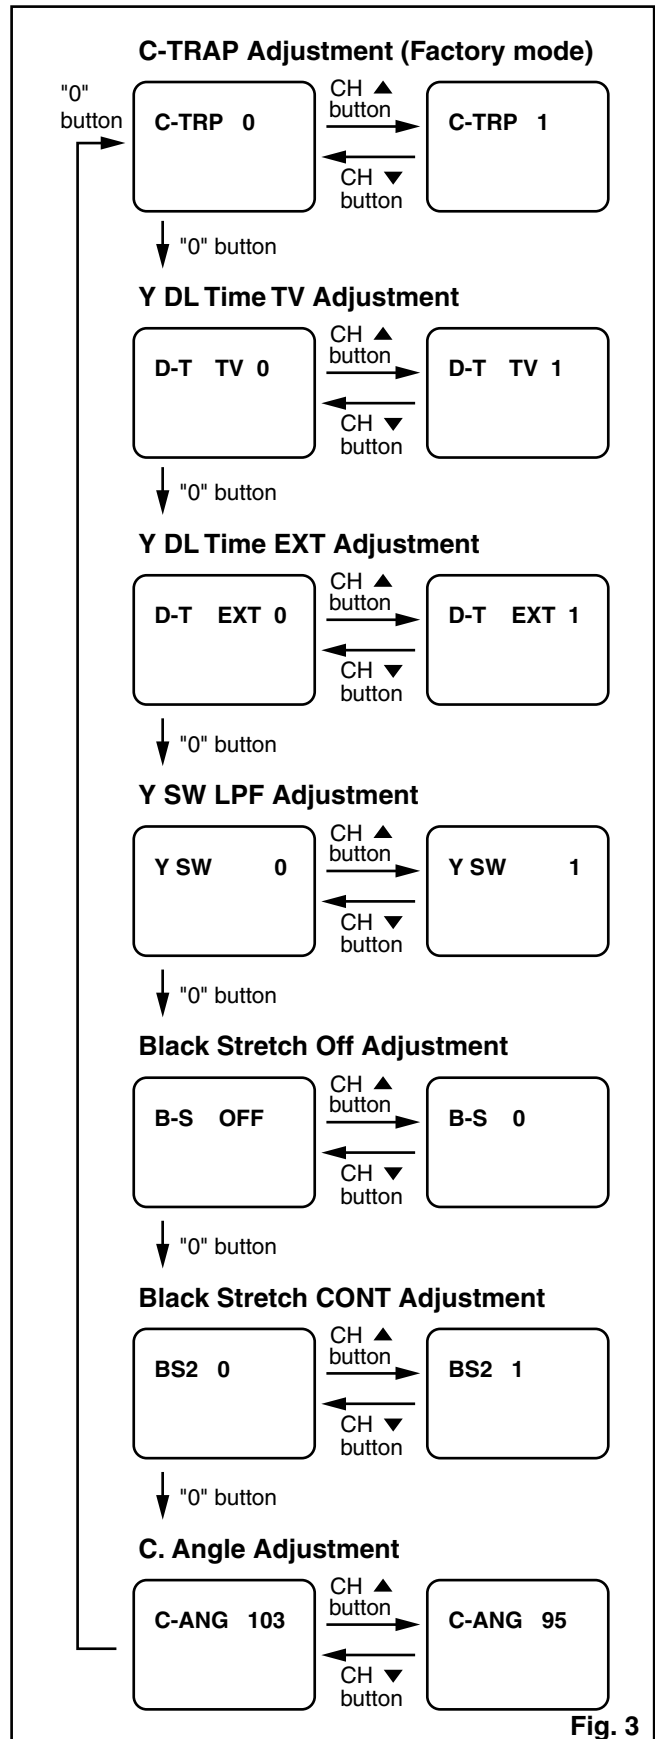

Fig. 3
3. Press "0" button on the remote control unit and select C-TRAP mode. (Fig. 3)